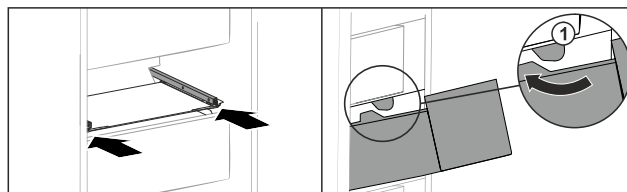

Fig. 208
- Guide drawer around the stoppers Fig. 208 (1).